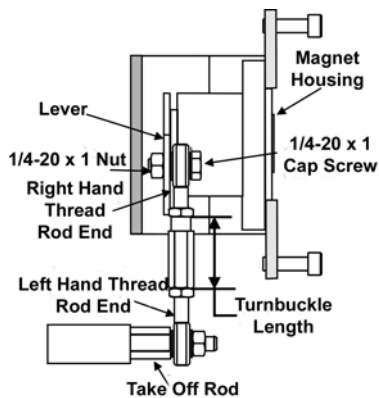

Figure 8 Reciprocating Linkage
4. Thread the take-off rod to the actuator stem connector. Refer to Figure 8. Ensure that the travel pointer located on the coupling is correctly positioned.
10. Thread the turnbuckle onto the left hand threaded rod end. Refer to Figure 8.